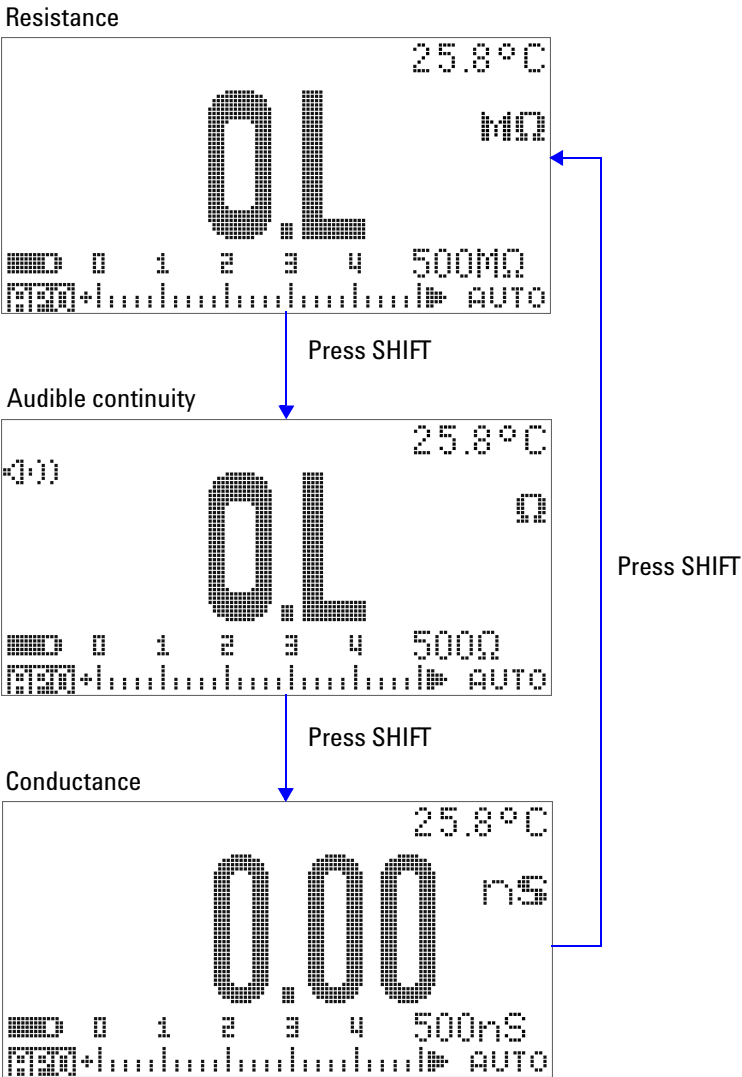

Figure 2-8 Resistance, audible continuity, and conductance tests
- 4 Press  to scroll through audible continuity test () or , depending on Setup configuration), conductance measurement () and resistance measurement (, , or ) as shown in Figure 2-8 on page 42.